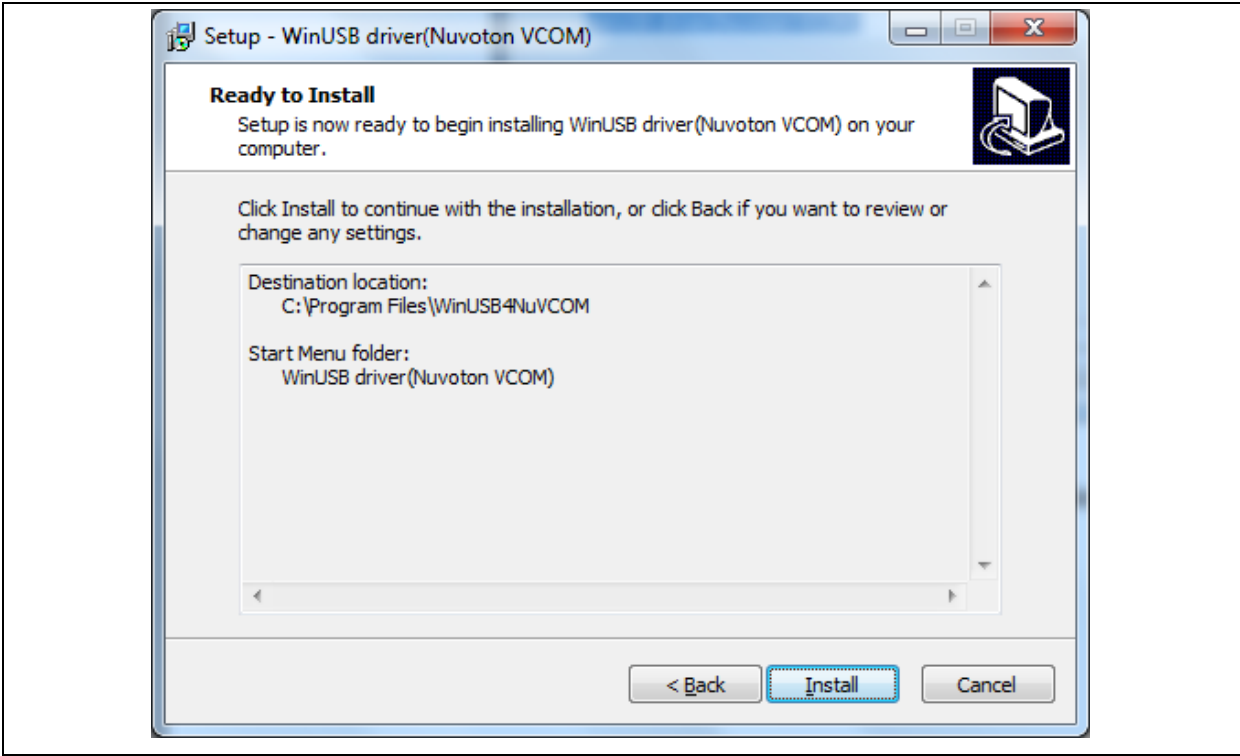

Figure 2-5 WinUSB4NuVCOM Driver Setup (5)
Step 5: Press “Install” (Figure 2-5).